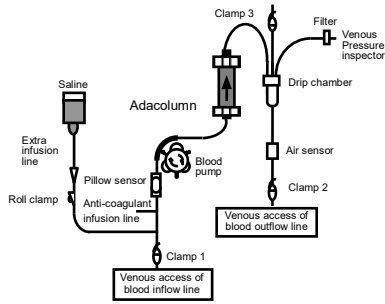

Fig.3
- 2) Connect the blood inflow line and the blood outflow line to the venous access established above (Fig.3). Alternatively, it is possible to connect the blood outflow line to the venous